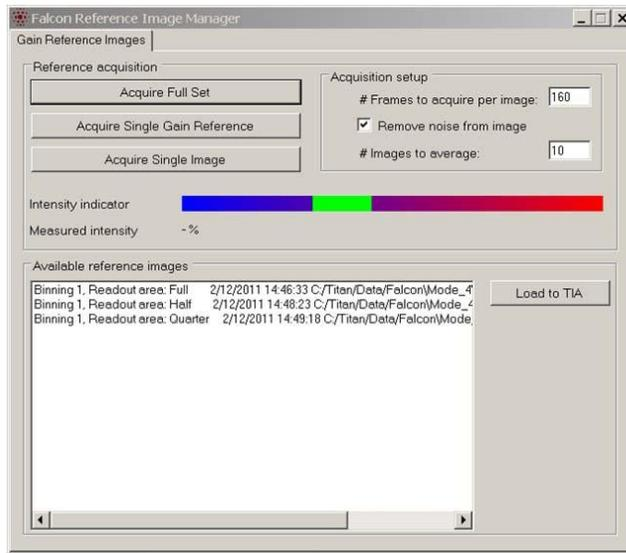

Figure 3. Falcon Reference Image Manager.
- 4) Select the Falcon Reference Image Manager in the Bias/Gain tab of the CCD/TV Camera OCX flap out window. Set the conditions to acquire **160** frames with **10** images to average (Figure 3) and check the 'Remove noise from image' box.